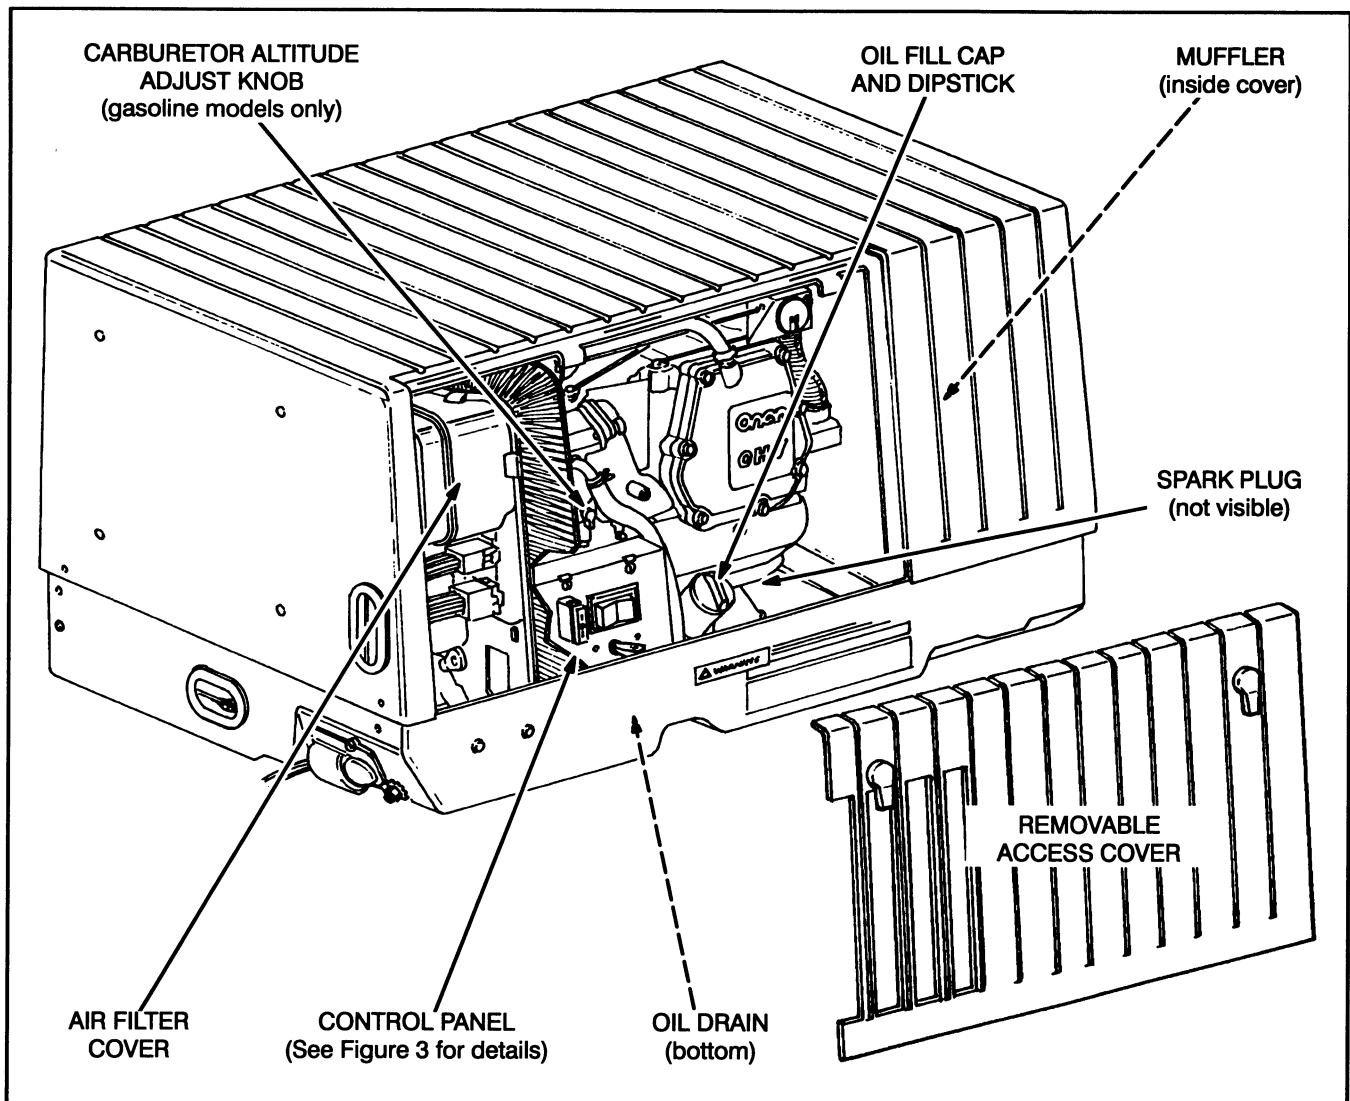
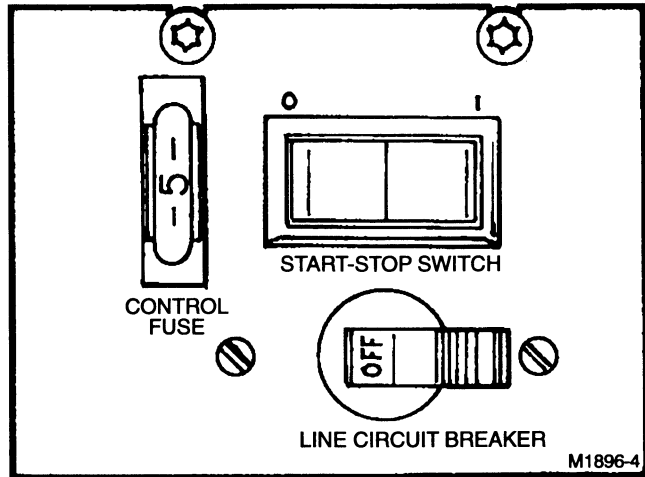

FIGURE 2. COMPONENT LOCATIONS
FIGURE 3. GENSET CONTROL PANEL
The control panel and the components requiring attention during periodic maintenance (see *Periodic Maintenance*) are located behind a removable access cover. See Figure 2.
The genset control panel (Figure 3) is located behind the access cover on the genset (Figure 2). It has the following features:
2. Push and hold the genset or remote START switch (Figures 3 and NO TAG) until the genset starts. (The remote START switch inside the vehicle should have a lamp which lights to indicate that the genset has started and is running.)